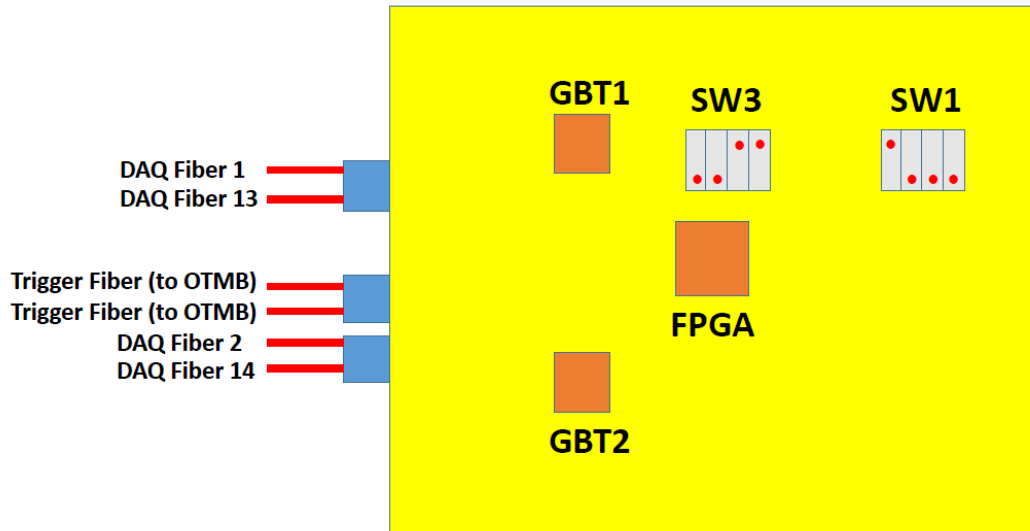

Figure 5: Switches on OH0 board for debugging, top view
- 3.2. Select SW1-1/2/3="110" for Slave SelectMAP configuration mode (FPGA is loaded from GBT1) and SW1-4="0" (Master/Slave=0) (Fig.5).
- 3.3. Set SW3-1/2/3/4 (Fig.5) to: